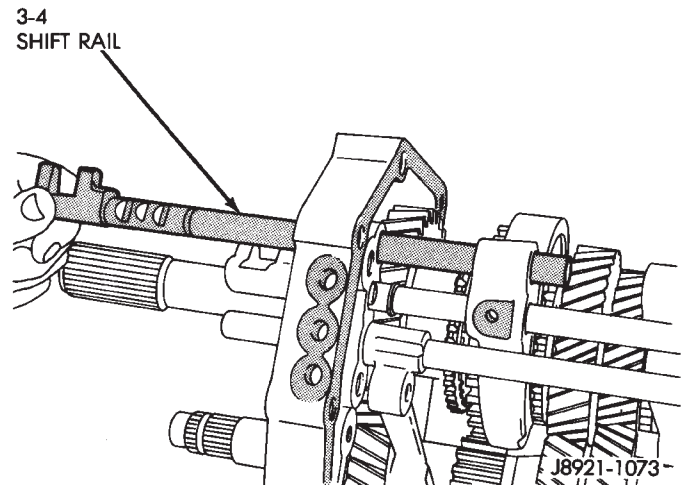

Fig. 44 Removing 3-4 Shift Rail
(4) Remove 3-4 shift rail from shift fork and intermediate plate (Fig. 44).